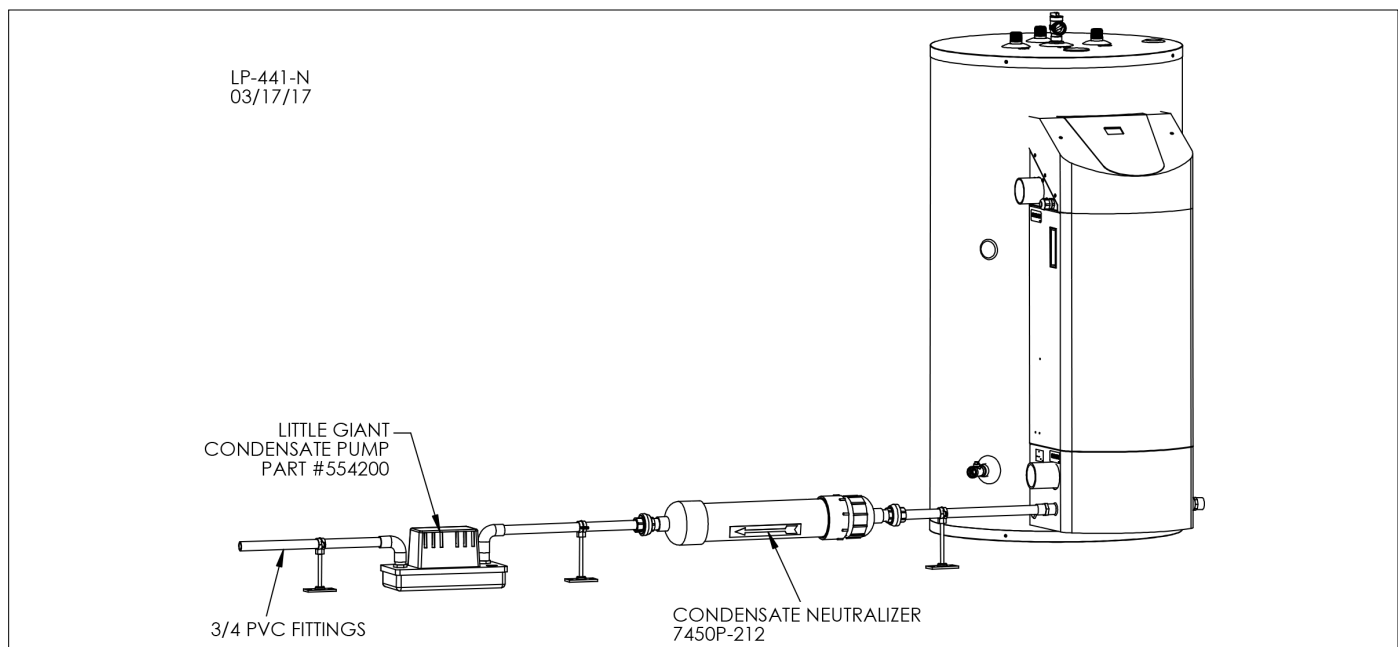

Figure 17 - Condensate Piping
8. Local building codes may require an in-line neutralizer to be installed (not included) to treat the condensate. See Figure 17. If required by local authorities, a condensate filter of lime crystals, marble, or phosphate chips will neutralize slightly acidic condensate (p/n 7450P-212 available from HTP). Follow all the installation instructions included with the neutralizer. If a neutralizer is installed, periodic replacement of the limestone (or neutralizing agent) will be required. The rate of depletion of the limestone varies with usage of the appliance. During the first year of appliance operation, check the neutralizer every few months for depletion.